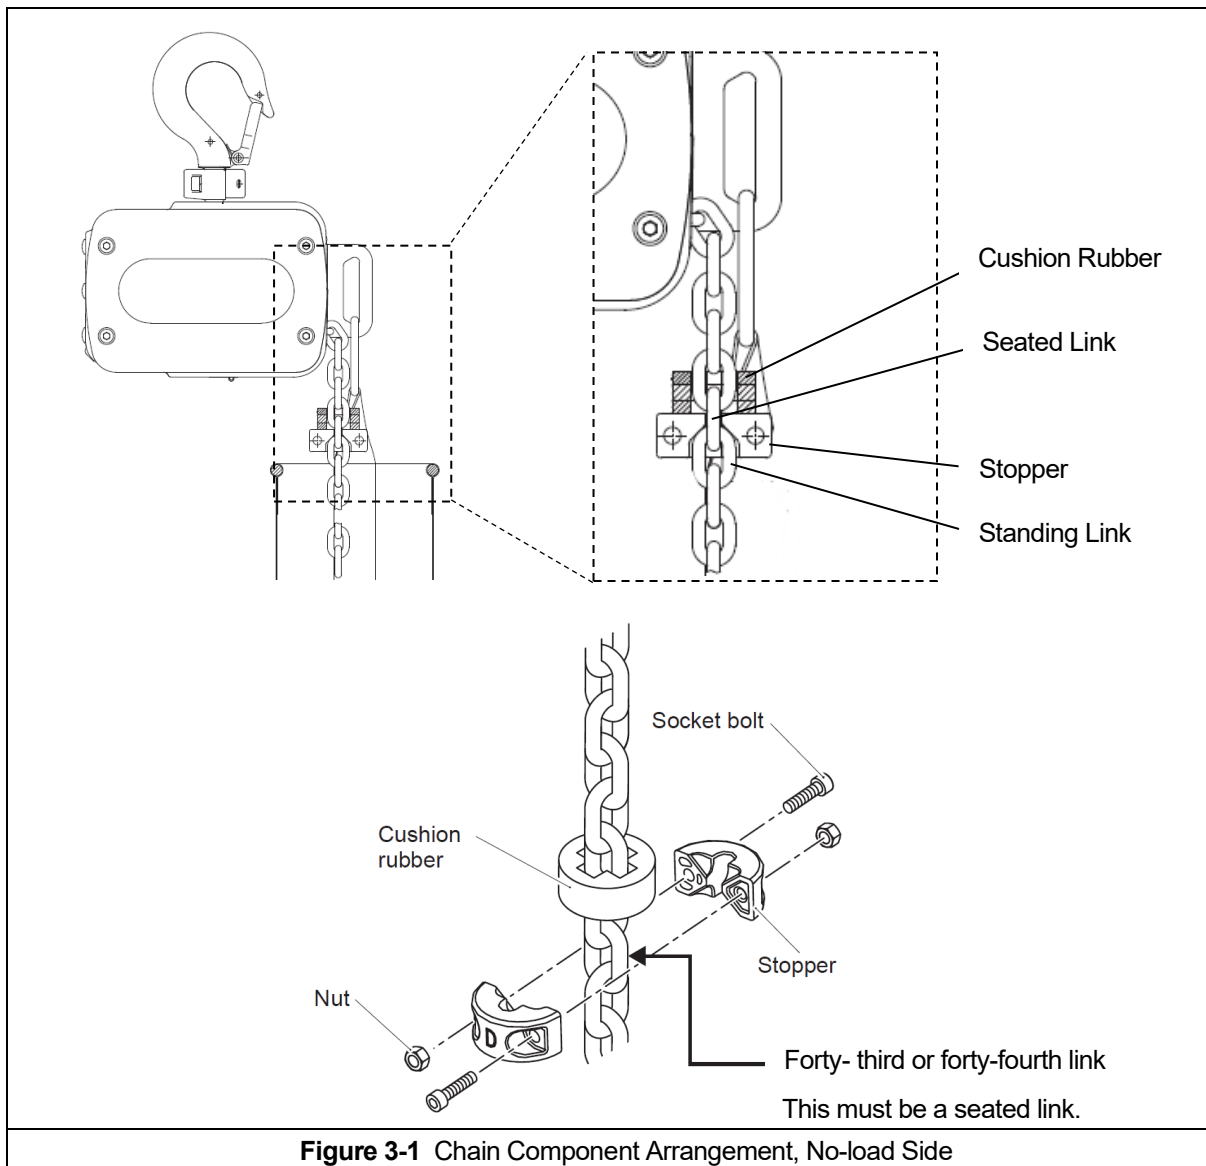

Figure 3-1 Chain Component Arrangement, No-load Side
- 3.2.1 **⚠ WARNING** Never operate the hoist with incorrect, missing, or damaged chain components. Ensure that all chain components are in the correct location and properly installed as shown in **Figure 3-1** and **3-2**. The stopper shall be installed on the forty- third or forty-fourth link from the end of the chain (Note: this must be a seated link). If the stopper position is incorrect, it could cause the load chain to break.
- 3.2.2 Canvas Chain Container – When installing the chain container, refer to **Figure 3-3** and pass the Quick Link into the chain container bracket. Screw and tighten the Quick Link securely. Hook the Chain Clip on the free end of the chain onto the Quick Link. The chain stopper is installed on the forty-third or forty-fourth seater link from the end (see **Figure 3-1**). To place the chain into the chain container, feed the chain into the container. Take care to avoid twisting or tangling the chain. NEVER put all the chain into the container at once.